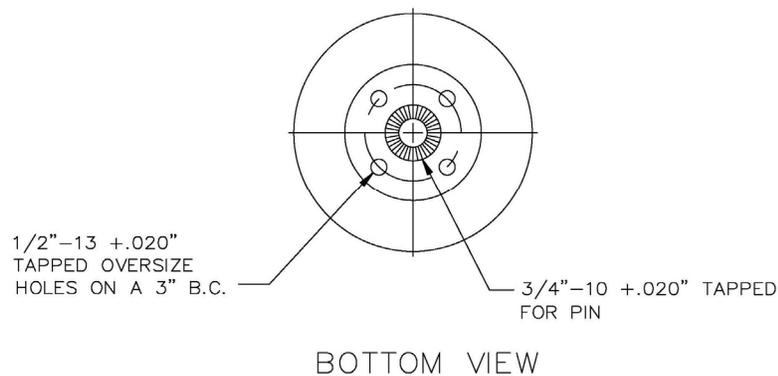

Figure 2: Sensor bottom mounting plate hole pattern
- Grounding procedure: The sensor may be attached to a mounting surface (cross-arm, channel, etc.) using either the center mounting hole, or the four-hole bolt circle pattern. See Figure 2.